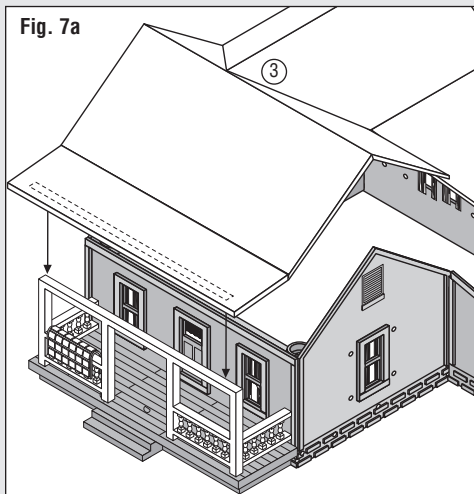

Fig. 7a
- Place Roof (3) on Building. Align top of Front Railing (6) with notch in underside of Roof (Fig. 7a). Apply a tiny amount of glue along top of Railing before installation to secure in place.